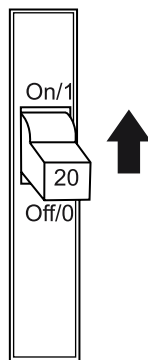

Figure 91. GFCI Circuit Breaker
2. Place a **GFCI circuit breaker** (Figure 91) in the **ON** position.